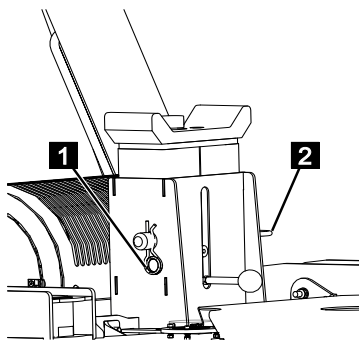

Fig. 116
4. Pull the spring cotter pin (Fig.116/1) out of the fastening bolt (Fig.116/2).
5. Pull out the fastening bolt (Fig.116/2).